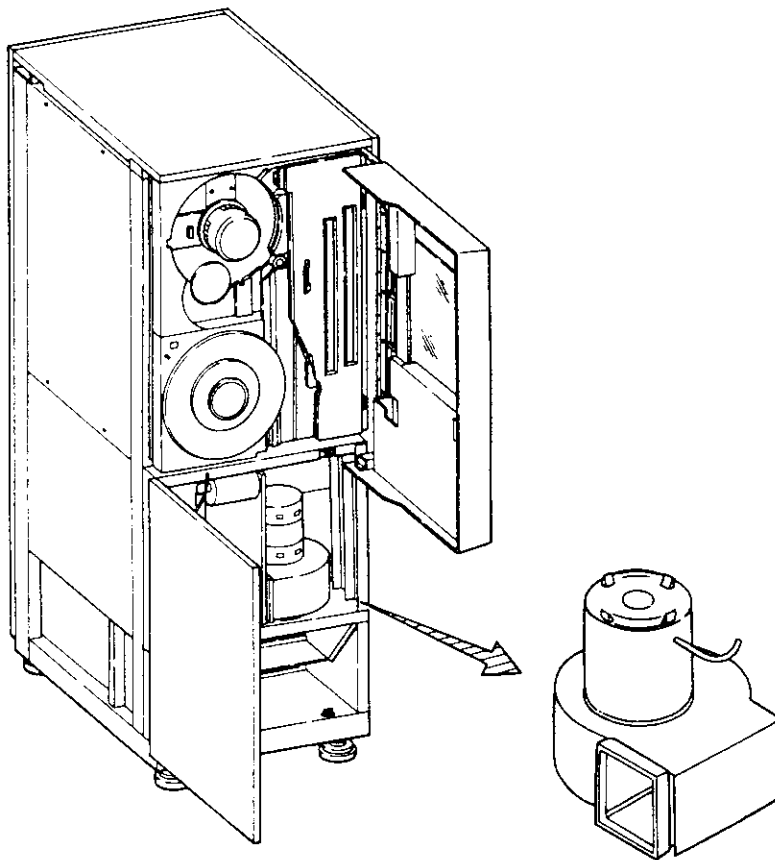

Figure L.40 Fan assembly
- (1) Open the lower left-hand door on the MTU front panel and open the internal door by removing two screws.
- (2) Remove six screws and remove the panel to gain access to the fan assembly shown in Figure L.40.
- (3) Disconnect connector CNP43.
- (4) Remove two screws and remove the fan assembly.